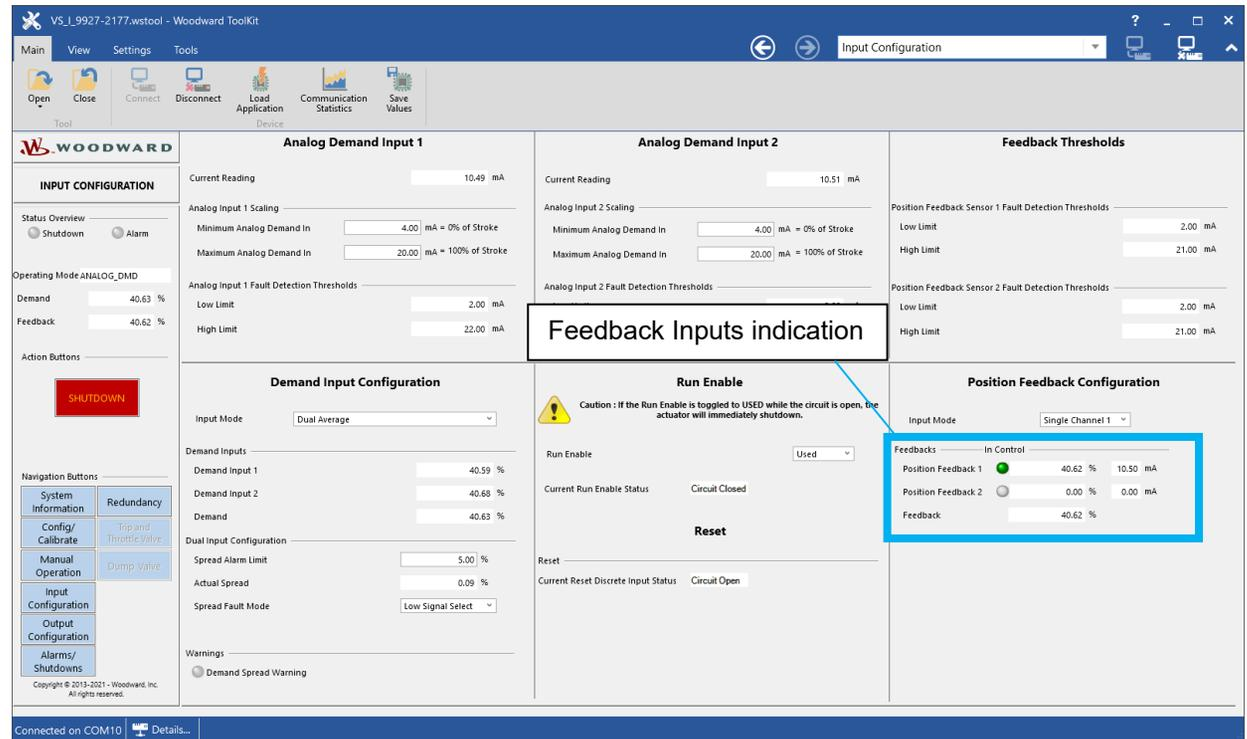

Figure 2-79. Feedback Readings on the Input Configuration Screen
69. Perform verification and comparison of **Position Feedback values** between the control system and the newly installed VariStroke (Figure 2-79). These values must be identical, but very minor differences are expected. Register two readings to confirm the values are alive [notate result in Checklist: ID #7 and #8].